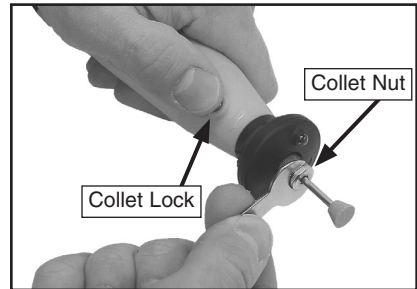

Figure 3. Collet lock.
2. Depress the collet lock (see **Figure 3**) and loosen the collet nut with the collet wrench. The collet lock will engage as the collet rotates.